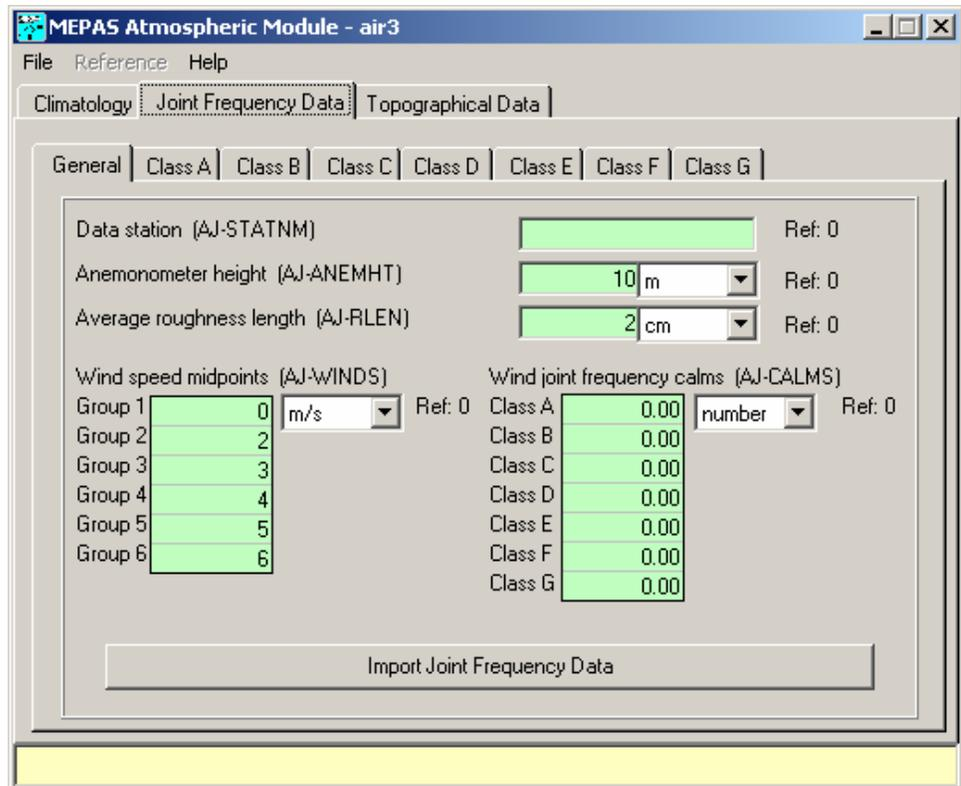
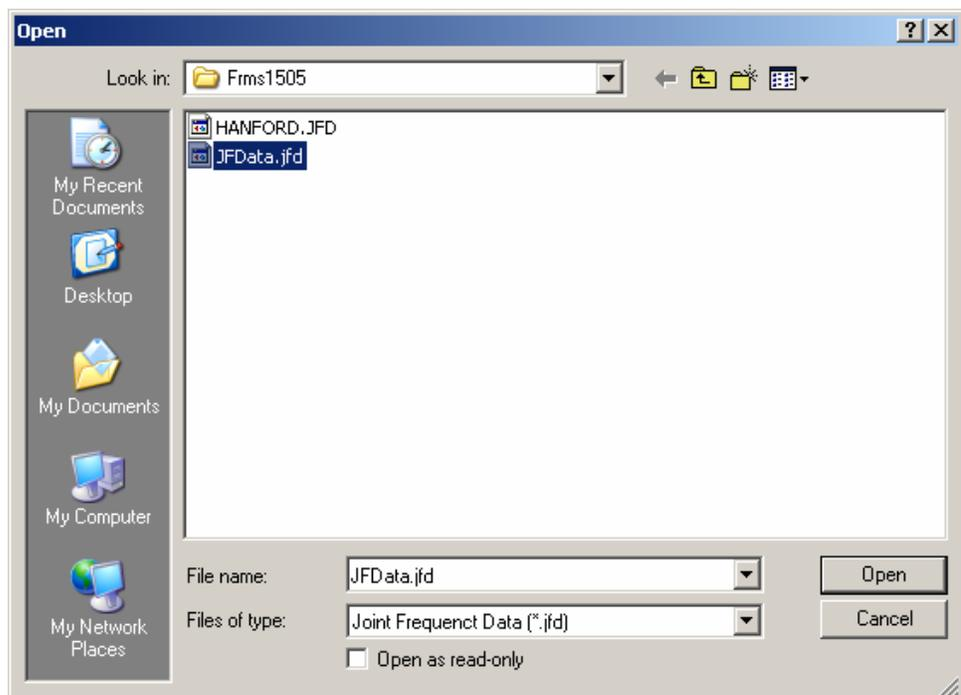

Figure 25. MEPAS Atmospheric Module – Joint Frequency Data tab
Figure 26. Selection of a Joint Frequency Data File for Importing
- The second tab is the “Joint Frequency Data” tab shown in Figure 25. This tab will be used to input data pertaining to the relative frequencies of various wind conditions
for the area surrounding the current site. There are eight tabs under the Joint Frequency Data section. The tab labeled “General” is used to enter general information pertaining to the frequency data. The other seven tabs labeled “Class A” through “Class G” contain tables for entering information about each of these wind stability classes. Wind frequency data can be obtained through the STAR PROGRAM summaries from the National Climatic Data Center (NCDC) in Asheville, North Carolina, which is operated by the National Oceanic and Atmospheric Administration (NOAA's) Environmental Data Service. A file containing joint frequency data (JFD) will be imported and used to fill the tables in this example. There are plans to have an ARAMS utility that will take NOAA data and develop the JFD file. Click the button labeled “Import Joint Frequency Data” at the bottom of the “General” tab. Select the file titled “JFData.jfd” from the FRAMES directory as shown in Figure 26 and select “OK.” The data for the “Wind joint frequency calms” section on the “General” tab will be filled in along with the tables for the wind stability classes on the remaining tabs. Enter the additional data given below on the “General” tab as shown in Figure 25.